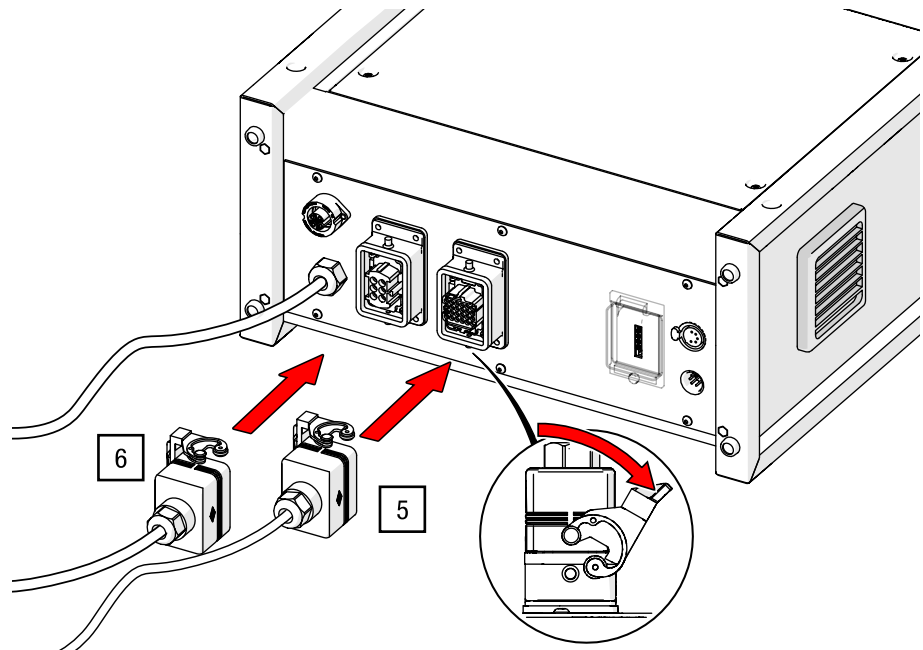

Fig. 37: G-FRAME 54 – connecting the control and motor supply cables of the roller screen (model may vary)
5. Plug the 25 m motor supply cable into the socket labelled 1XS1 on the rear of the control unit and secure it with the locking bail (see Fig. 37).
6. Plug the 25 m control cable into the socket marked 1XS2 and secure it with the locking bail (see Fig. 37).